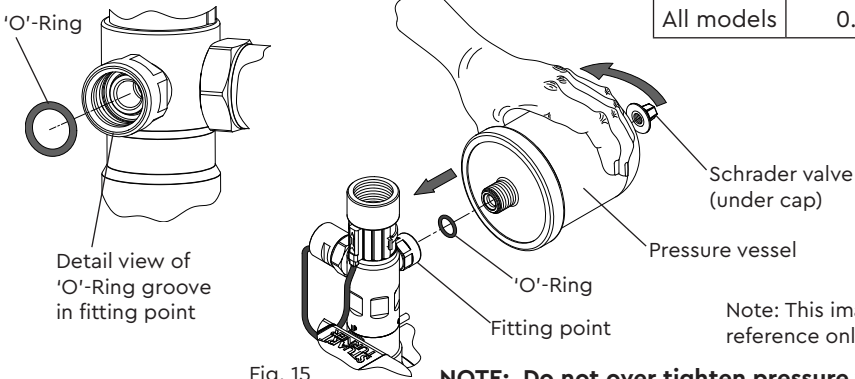

Fig. 15
- Check air charge at Schrader valve (Fig. 15) using a tyre pressure gauge.
- Replenish air charge by injecting air into the vessel via the Schrader valve using a car or bicycle pump (Fig. 15).